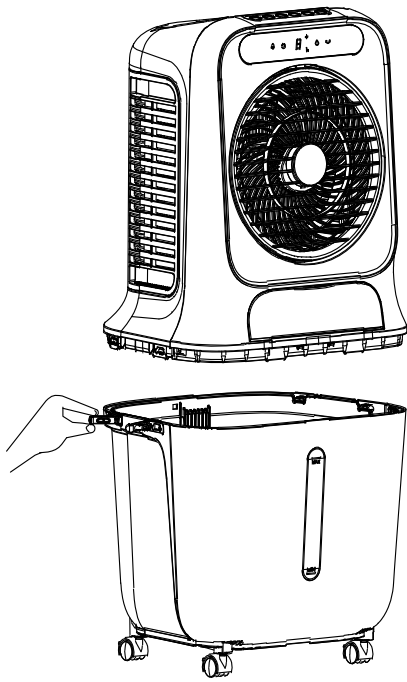

Figure 3
2. Before adding water, open the 4 water tank buckles to separate the body from the water tank, and slowly pour water into the water tank (Figure 3 and Figure 4): After adding water, install the body and water tank, and fix the buckle.